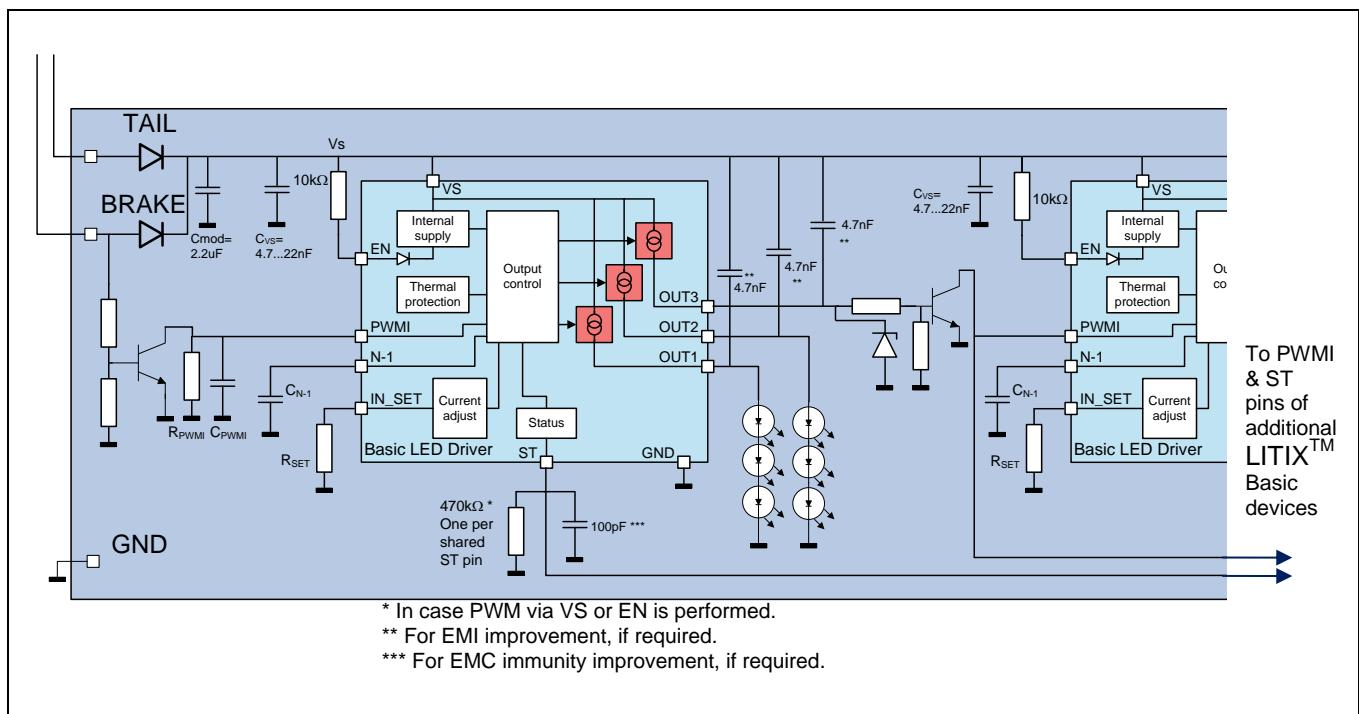

**Figure 48 Application Circuit using internal PWM unit to provide 2 level brightness control (TLD1315)**
- A possible application circuit using the PWMI pin for a 2 level brightness control application is shown in Figure 48. This particular example is for a brake and tail light application.